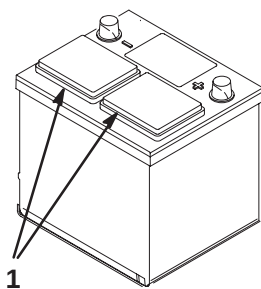

Figure 12
2. Clean the top of the battery and remove the vent caps (Fig. 12).